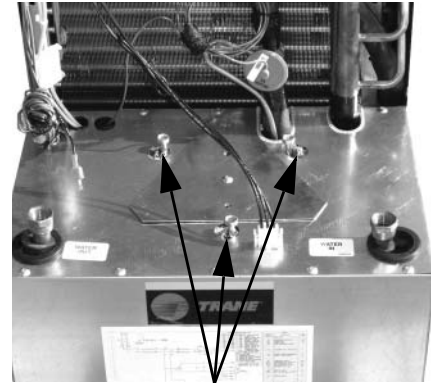

Figure 9: Shipping bolts
- 1 Remove three 16-inch bolts on the chassis and discard, *Figure 9*.